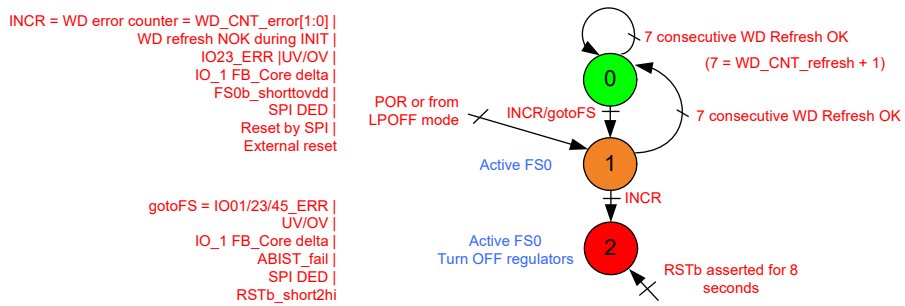

Figure 20. RSTB error counter (RSTB_err_FS = 1)
- RSTB_err_FS = 1 / Intermediate = 1; Final = 2 (Figure 20). When reset error counter reaches 2, the device goes into deep reset and fails.